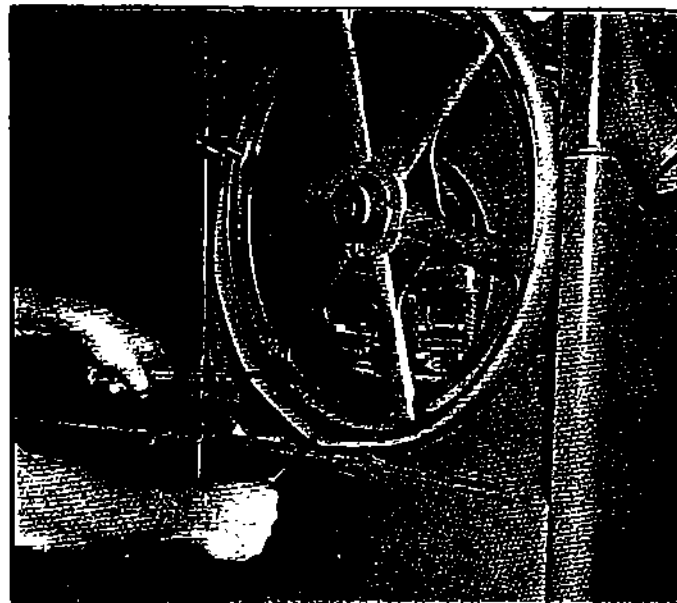

Fig. 11
3. Pry the remainder of the tire onto the wheel using two screwdrivers or other suitable instruments, as shown in Fig. 11.